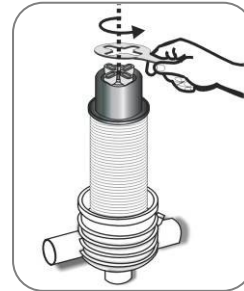

Figure 2
3. Unscrew the butterfly-nut on the filtration element. (Figure.2)